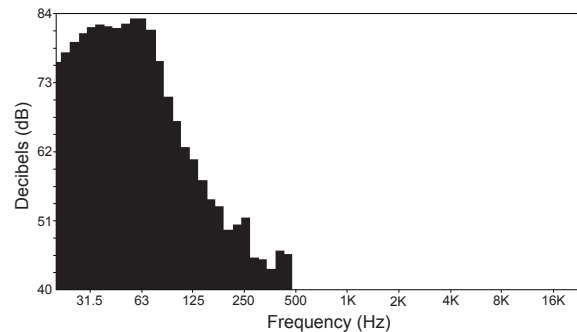

Figure 1: On-axis frequency response in standard stud wall with four coats of latex paint applied to the speaker face panel.
- 20Hz to 160Hz (see Figure 1)
20Hz to 160Hz (see Figure 1)